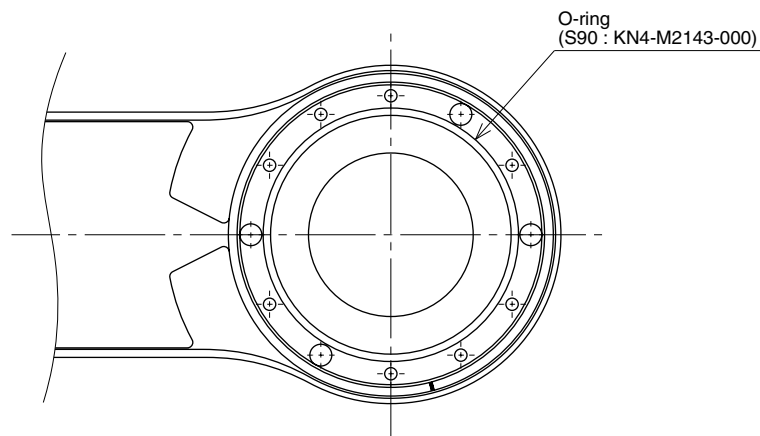

**Fig. 5-19**
- 11) Remove the X-axis arm installation bolts (M4×40L, 8 pieces). (See Fig. 5-19.)
- 17) Fit a new O-ring into the O-ring groove on the X-axis arm (see Fig. 5-20) and secure it to the harmonic drive. Then apply small amounts of “Screw Lock” to the bolts (M4×40L, 8 pieces) you removed earlier and tighten them uniformly to secure the X-axis arm. (See Fig. 5-19.)